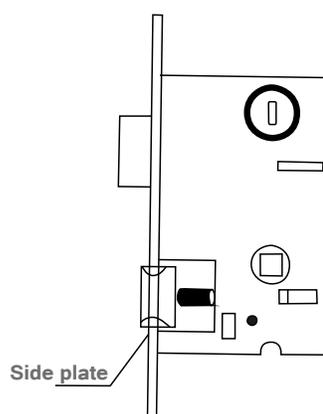

FIGURE 2
- (1) Insert the lock body downwards with the latch bolt.(Picture II)
- (2) Press the latch bolt firmly below the side plate, and rotate the stopper downward and 180(Figure 2).
- (3) Push the latch bolt into the latch bolt hole.(Picture III)